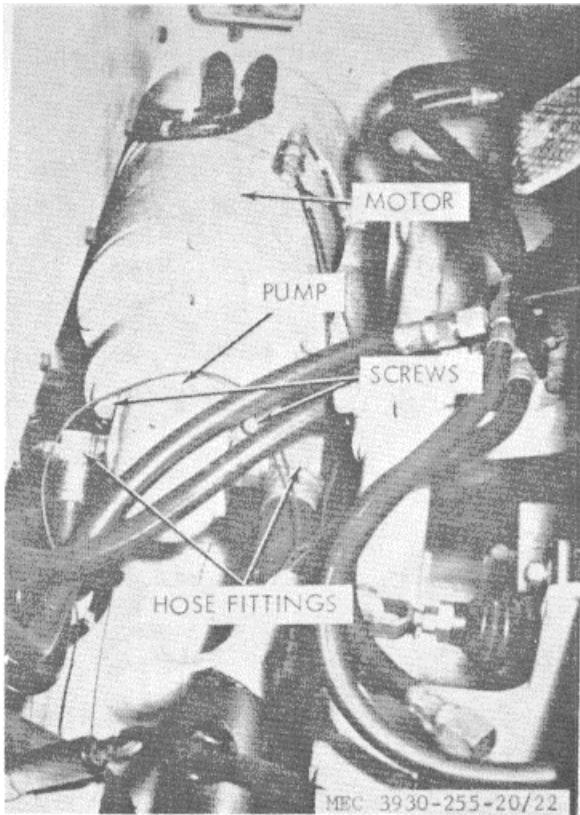

Figure 22. Hydraulic pump and motor.
- (1) Remove floor plate (para 50).
- (2) Position a bucket under pump (fig. 22) to catch draining oil, and disconnect hose elbow fittings at pump. Remove hoses from pump and cap ends.
- (3) Remove two screws attaching pump to motor. Remove pump.